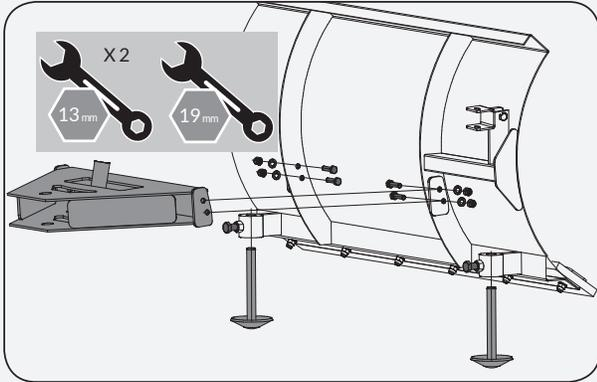

Figure 1a
1. Install the two supporting feet to the blade as shown in Fig. 1a, adjust the height and secure them with M12X30 bolts and nuts. Mount the steering bracket to the blade with M8X30 bolts, washers and nuts. (See **Figure 1a**)